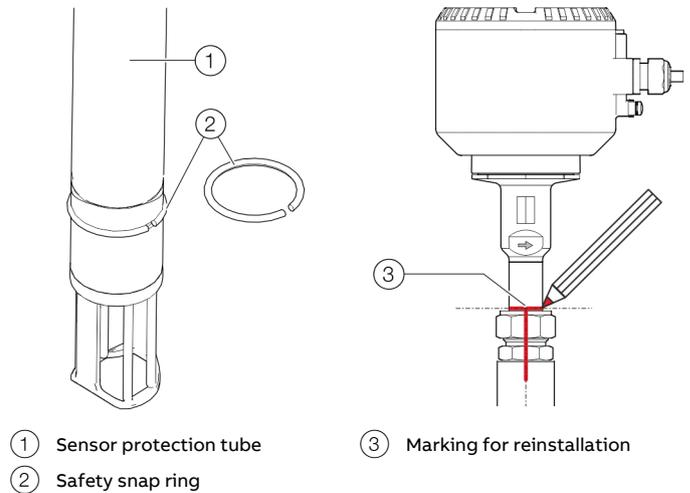

Figure 23: Snap ring and marking
2. Insert the safety snap ring using mounting pliers (see Figure 23, Pos. ②).
5. Using a suited marker pen, mark the orientation and height of the sensor on the sensor protection tube, compression fitting and the welding adapter (see Figure 23, pos. ③). The marking on the union nut is also used as a starting position (6 o'clock position, see Figure 24) for the tightening of the compression fitting
3. Using a suited marker pen, mark the orientation and height of the sensor on the sensor protection tube, compression fitting and the welding adapter (see Figure 23, pos. ③).
1. Make sure that the safety snap ring is inserted in the provided snap ring groove (see Figure 23, pos. ②).